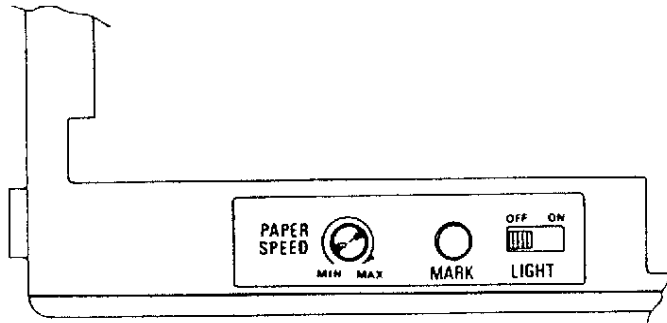

Figure 3-2. Internal Controls
Internal Controls - Three controls are located behind the front plastic window below the paper transport assembly. See Figure 3-2.
2. Internal Controls (See Figure 3-2)